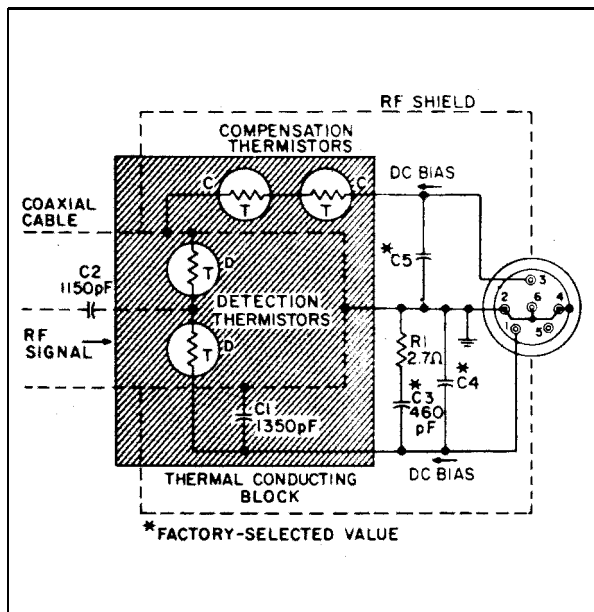

Figure 6. Schematic Diagram of a Model 478A Thermistor Mount when Connected to a 432 Power Meter
51. During 432 operation (see Figure 6) sufficient amounts of dc current are supplied from 432 Power Meter to heat the thermistors until their resistances are reduced to approximately 200 Ω per series pair. Capacitor C1 is practically a short to RF. This causes "D" to appear series connected to the dc bridge, parallel connected to RF. In this manner, "D" appears to the dc bridge in the 432 Power Meter as a 200 Ω resistance that terminates the coaxial cable into 50 Ω . Capacitor C2 blocks any dc and audio power that may be present in the incoming signal and passes only RF power.
55. Under normal operation the total power applied to heat thermistor pair "D" (see Figure 6) consists of: 1) RF signal and 2) heat from the environment. The total power supplied to heat thermistor "C" consists of: 1) dc bias and 2) heat from the same environment. As "D" and "C" are matched thermally, the total amounts of heat applied to reduce their series resistance equally must be equal.
59. Match between the thermistors may be checked by comparing the thermistor resistances under simulated operating conditions. Equipment required is indicated in Figure 6. Make connections to the connector at the rear of the thermistor mount; pins are shown in Figure 6. Note that the small battery in series with the HP Model 3440 Digital Voltmeter is connected in opposition